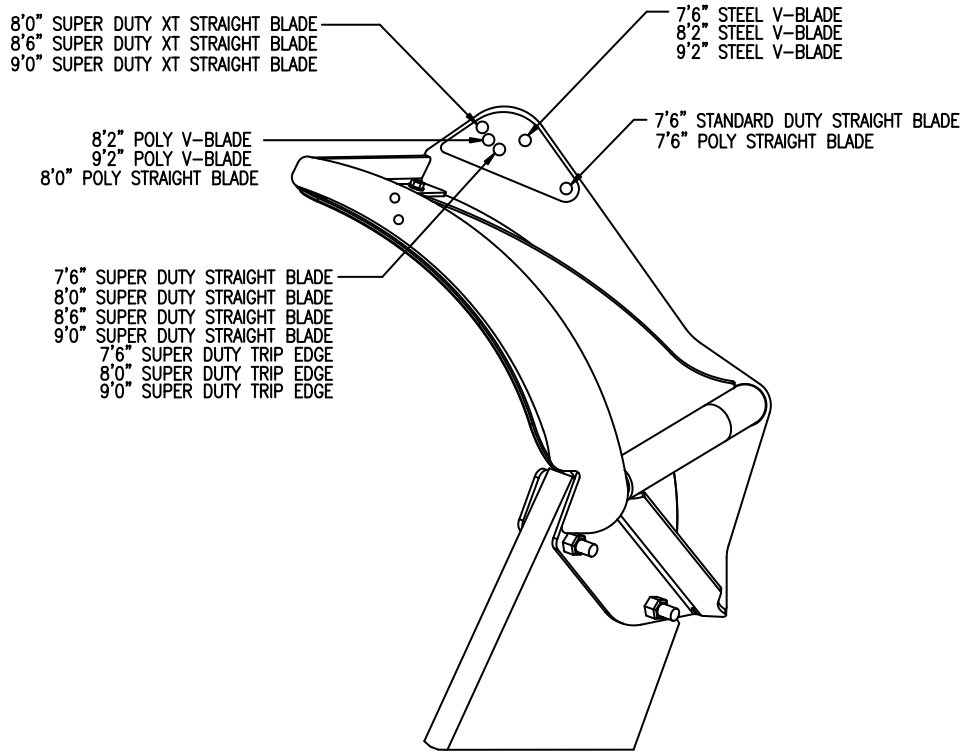

Figure 7. Individual Blade Spring Pin Location
- 12) Rotate Driver Side Blade Wing (1) until profile lines up with moldboard. Engage Spring Pin through hole corresponding to plow type. See Figure 7. Position Driver Side Blade Wing (1) so it's inside rib is parallel with Outside Plow Rib and Universal Cutting Edge (14) is contacting ground. Tighten all fasteners.